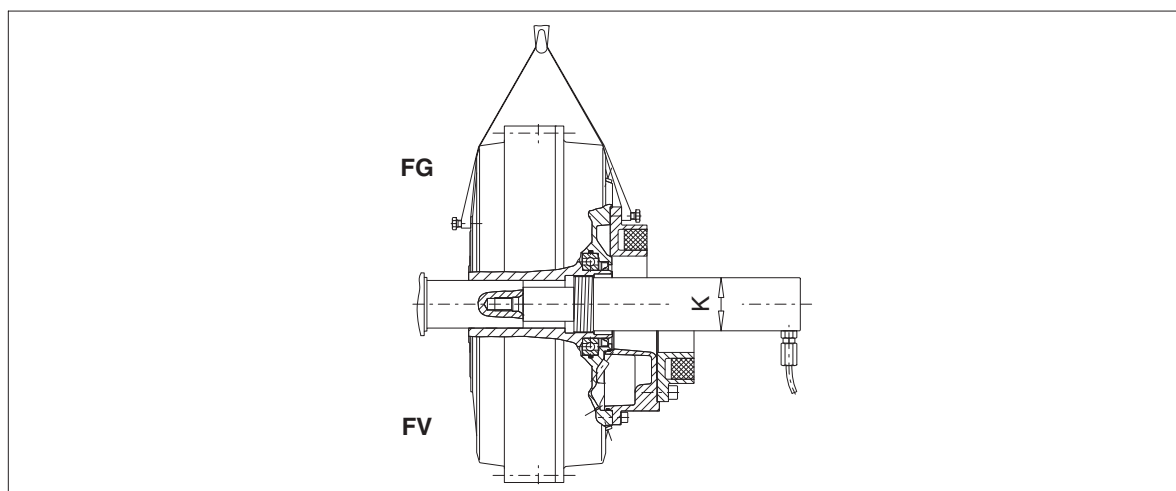

Fig. 16: Demounting the FLUDEX coupling using a hydraulic spindle or a hydraulic cylinder
- Demount the threaded bush (143).
- Screw the hydraulic cylinder with a matching external cylinder thread "K" (see table 10) into the free mounting thread of the hollow shaft (106) (figure 16).